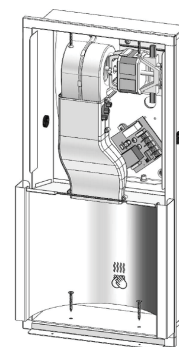

Fig. 6
7. Secure using #8x1-1/4" (4.2 x 32mm) sheet metal screws (not furnished). (See Fig. 6)